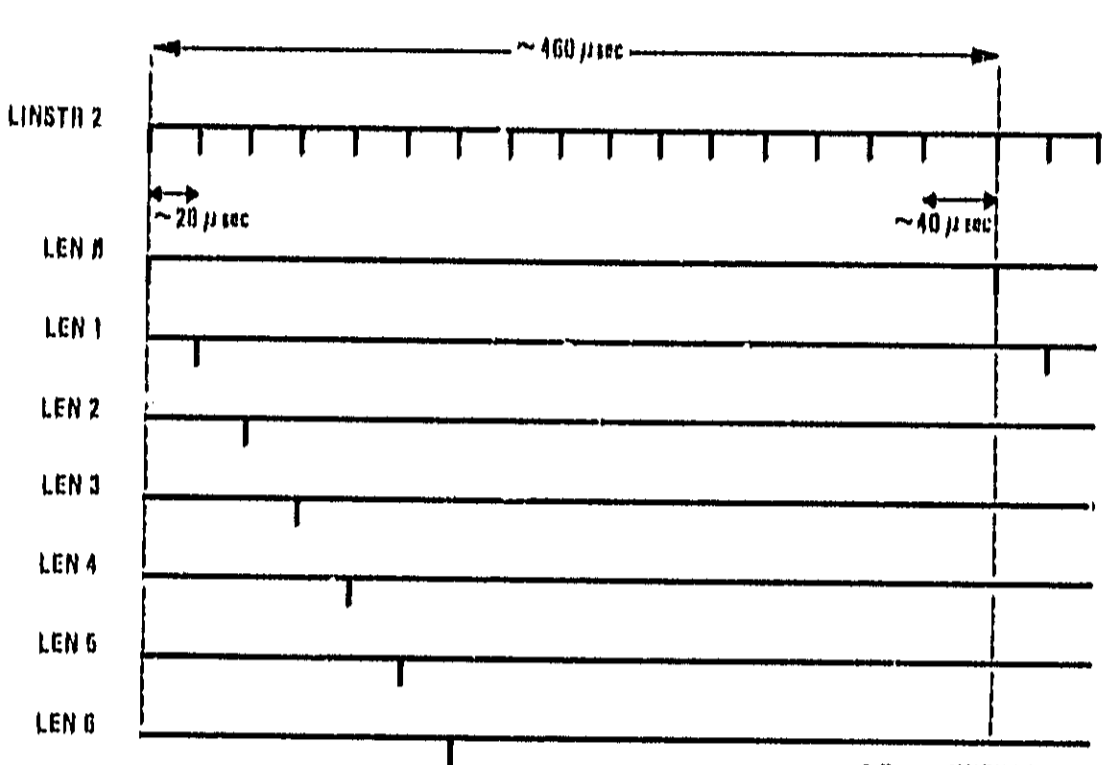

Figure 8-52. A6 Decoder Timing Diagrams*
2. If LINST2 is functioning, check each of the LENN lines (U25) for the pulses shown in Figure 8-52. If these are incorrect, but the address lines show activity, replace U25. If the address lines seem locked high or low, troubleshoot the address buffer on the A3 assembly.